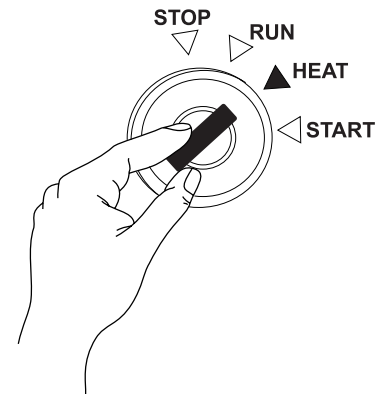

Figure 32. Starter Switch (HEAT)
4. Turn the **ignition key** clockwise to the **HEAT** position (Figure 32). In cold weather conditions, the **Pre-Heat lamp** (Figure 31C) will turn ON.